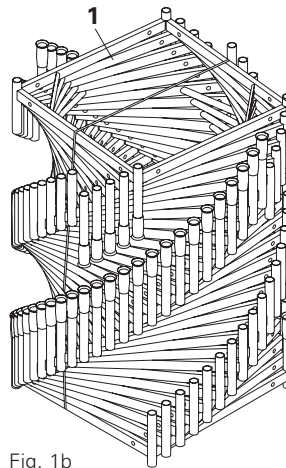

Fig. 1b
The Base-Head Frame ST 100 (1) is to be stored in stacks and transported according to current regulations. (Fig.1b)